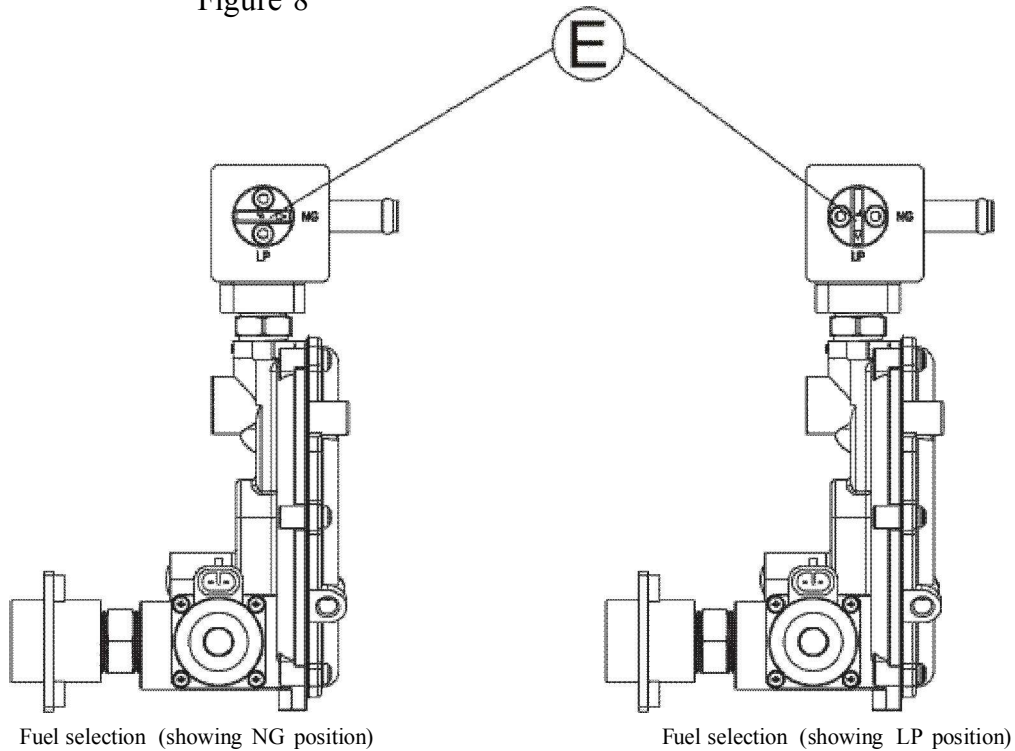

Figure 9
- A. For NG, rotate the control handle (E, Figure 9) on the gas conversion valve (A) until the arrow on the control handle (E) aligns with the 'NG' mark on the gas conversion valve (A).
- B. For LP, rotate the control handle (E, Figure 9) on the gas conversion valve (A) until the arrow on the control handle (E) aligns with the 'LP' mark on the gas conversion valve (A).